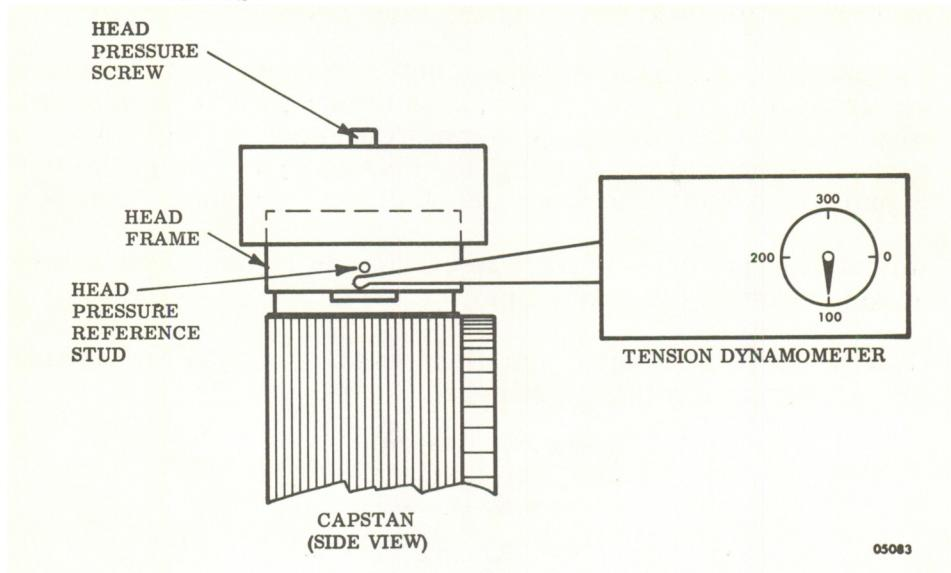

Figure 5.2-4. Head Pressure Measurement
- n. Place the measuring arm of the tension dynamometer under the head pressure reference stud on the head frame assembly and lift the head from the tape. See Figure 5.2-4.